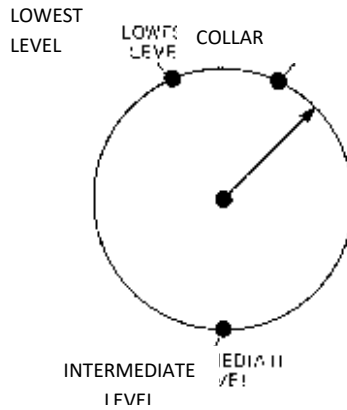

Figure 2
- A Depth Indicator, with over-travel switches. (See Figure 2) This is in addition to the depth indicator discussed in unit I-A-12-2, "Depth Indicator."